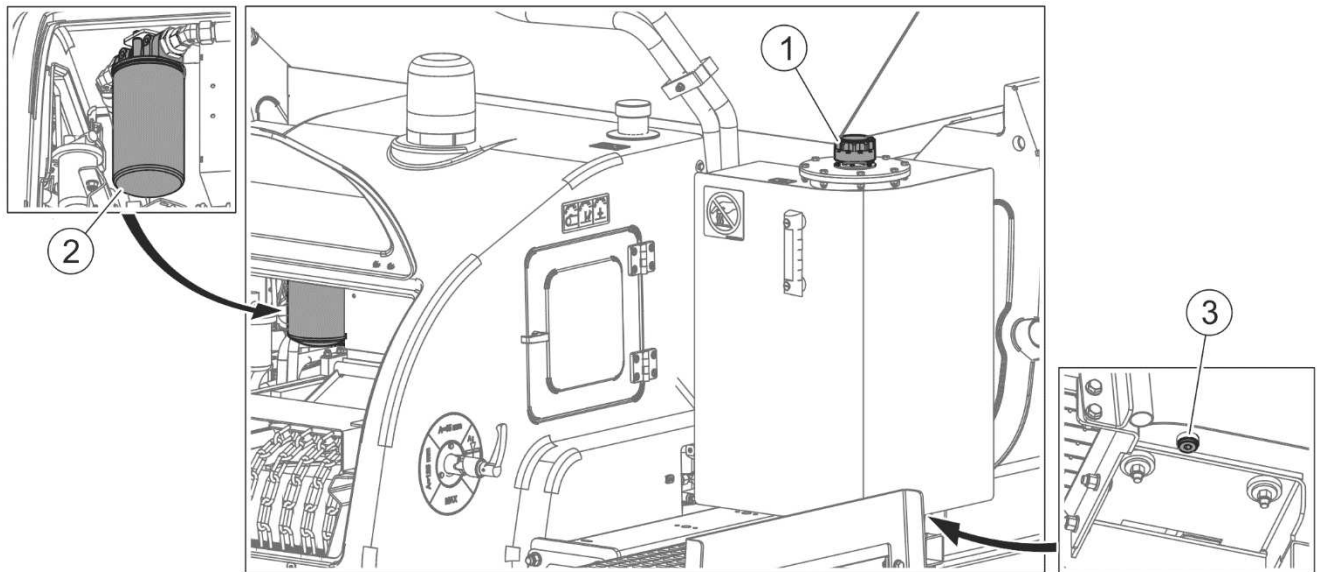

FIGURE 5.5 Change of oil and oil filter
- Unscrew filler plug (1) and oil drain plug (3) (FIGURE 5.5).
- Unscrew contaminated filter cartridge (2).
Cartridge of oil filter (FIGURE 5.5) should be replaced every 500 engine working hours or once a year.